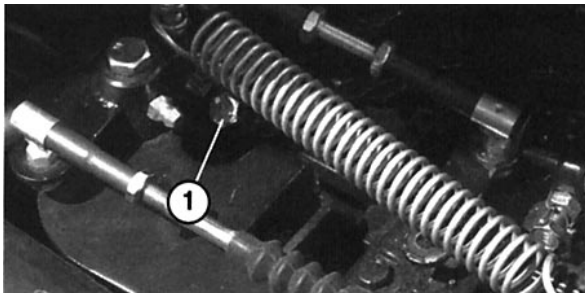

Figure 13
3. Open the air bleed screw on the fuel injection pump (Fig. 13) with a 10-mm wrench.